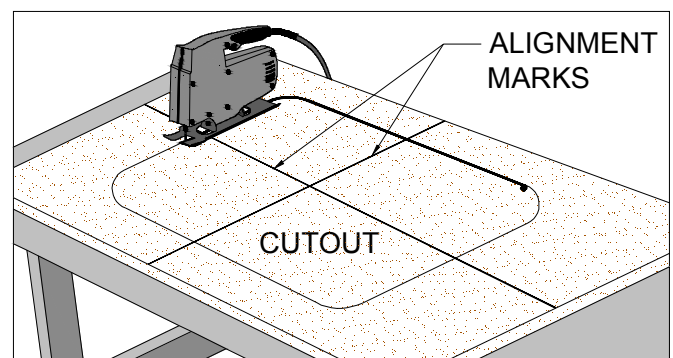

Figure 4D
- Cut along the penciled outline of the cutout. (FIG. 4D)